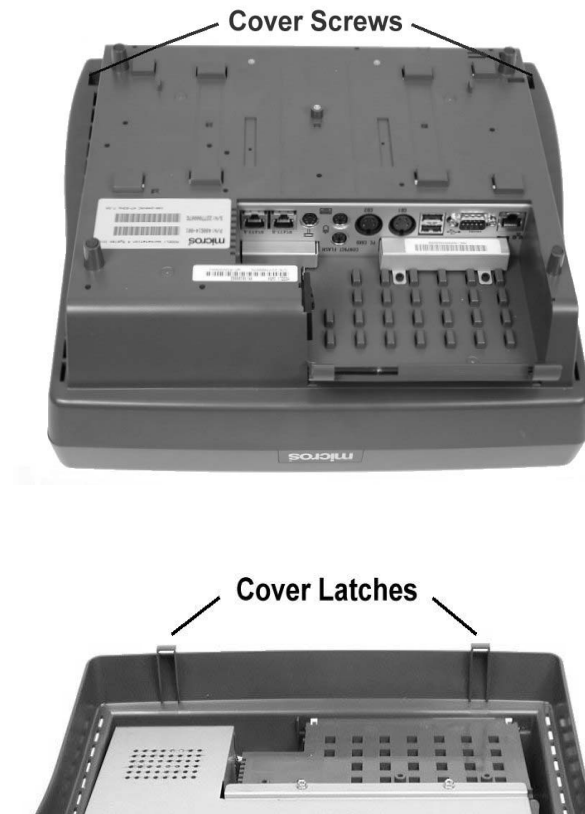

Figure 2-1: WS4 Cover Hinges and Screws
- The WS4 cover is held in place by a pair of screws accessible from the underside of the unit as shown in the top half of Figure 2-1. A pair of hinges are located at the rear of the base. Figure 2-1.
3. Loosen the two captive screws from the under side of the unit as shown in Figure 2-1